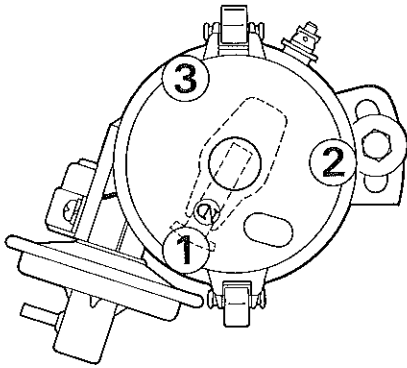

Fig. 9-18-1
3) Feed the distributor into the gear case in such a way that the center ⑤ of distributor flange will coincide with the distributor mounting screw hole ⑥ provided in the distributor gear case. When inserting the distributor completely, position of distributor rotor becomes as shown in Fig. 9-18-1. Secure the distributor in place tentatively by making the mounting screw finger-tight, and adjust the ignition timing.